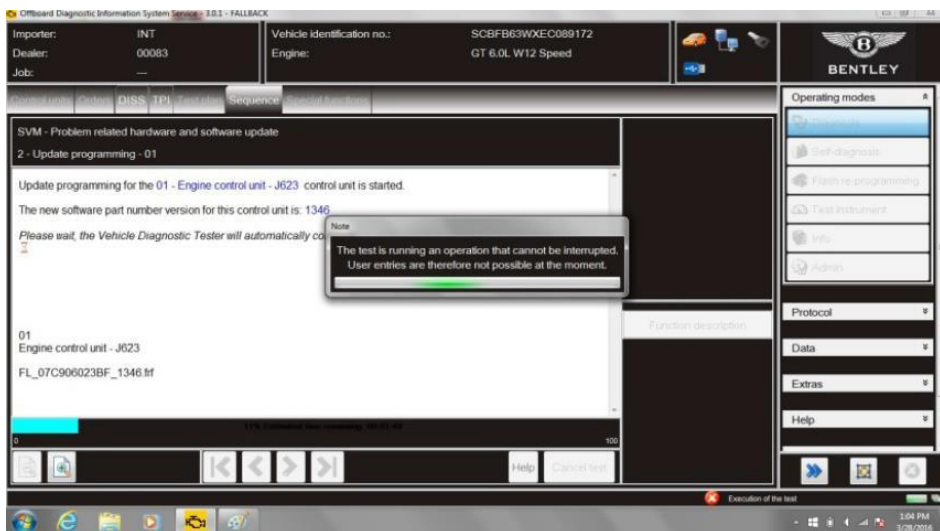

Figure 6
16. During each update progress bar will be displayed (see Figure 6)